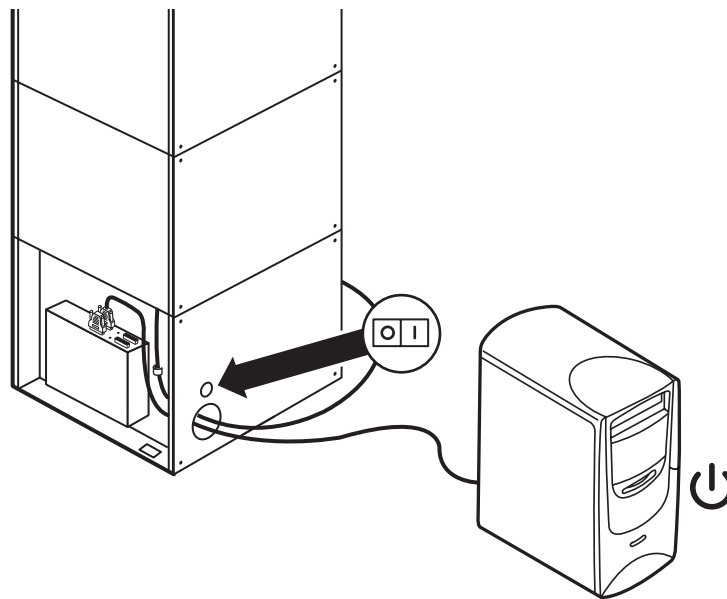

Figure 14: Powering on the jukebox
6. Connect power to the jukebox. Power on the jukebox and then power on the host system (see Figure 14).